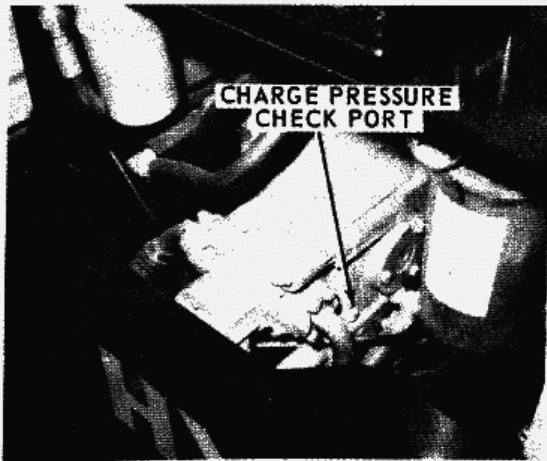
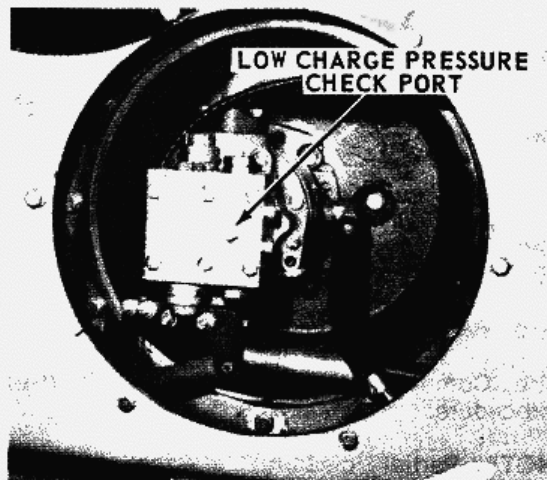

FIGURE 7-101.
FIGURE 7-102.
- b. After the transmission has been installed, remove the threaded plug from the top of the main pump housing (see figure 7-101). Install a 600 PSI (42.19 kg/cm²) pressure gauge with a short section of hose. The port is 7/16 x 20 straight thread with o-ring. Low charge pressure may be checked at the motor case port as shown in figure 7-102.